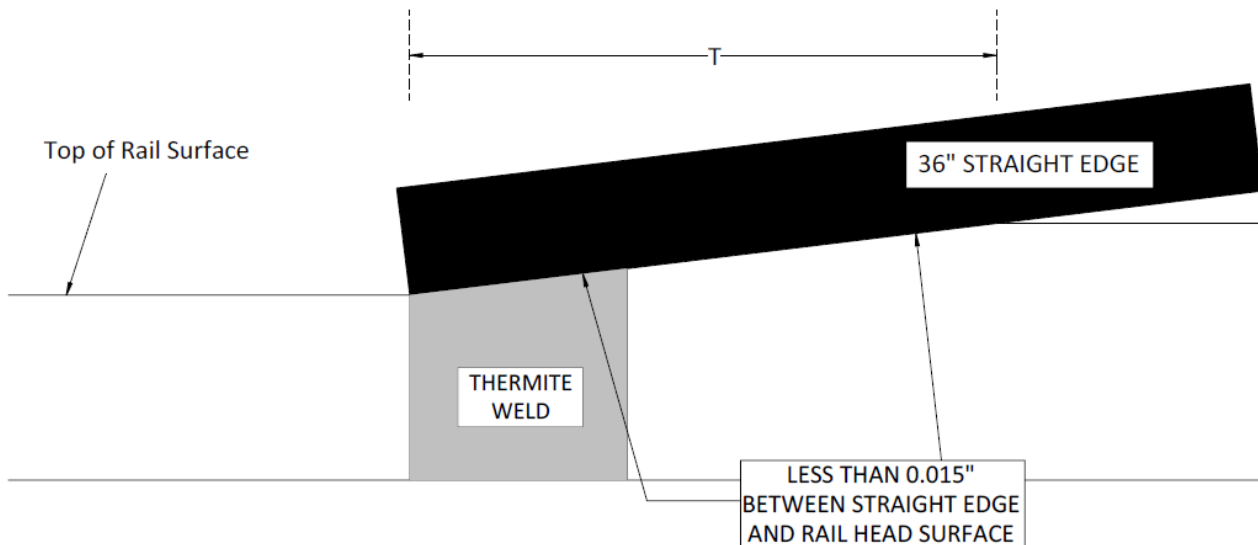

Fig. 29.2
- When a 36-inch straight edge is placed on the top surface of the rail at the interface between the weld and the low rail (Figure 29.2)
- (See Figure 29.2, 29.3 & 29.4)